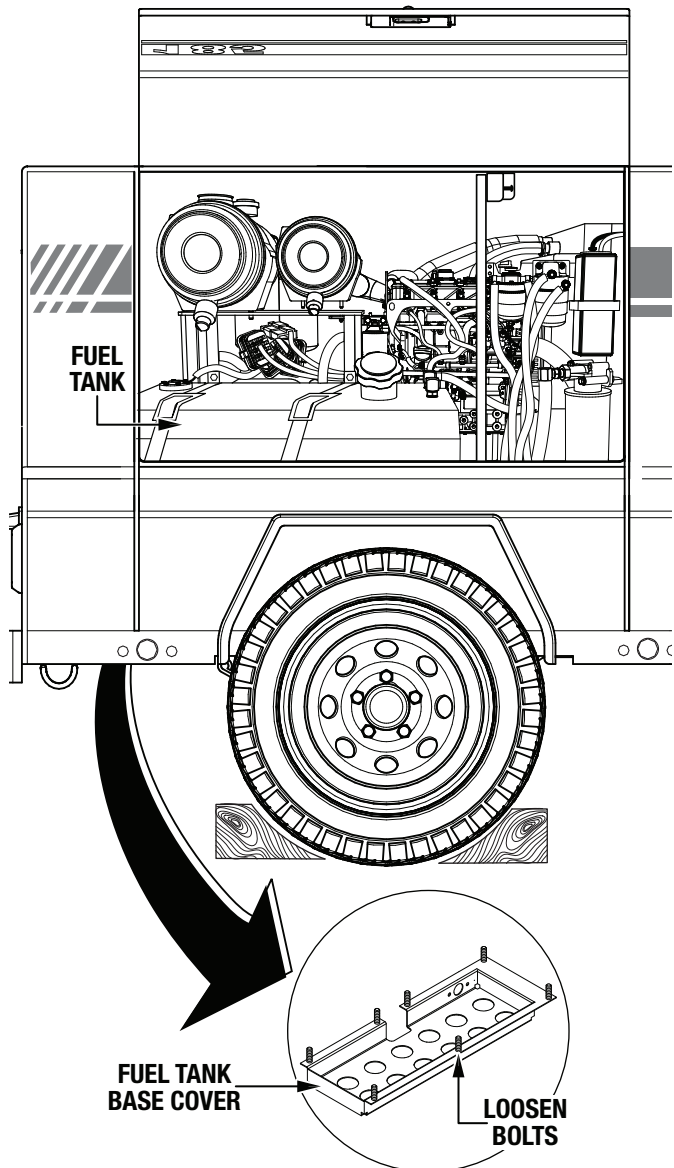

Figure 4. Fuel Tank Base Cover
1. The fuel tank base cover (Figure 4) must be loosened to allow access to the bumper hardware. Loosen the seven hex head bolts securing the fuel tank base cover to the frame. **DO NOT** remove the bolts nor the cover itself.